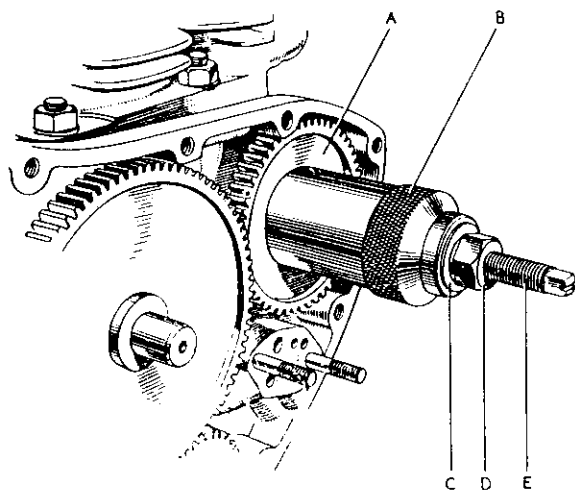

Fig. 20. To Replace the Camwheel.
- (2) The camwheel must be fitted with a special press-on tool (Fig. 20). Place the Woodruff key in the camshaft keyway. Then screw on the centre tool (E). Place the camwheel (A) on the camshaft and engage the keyway with the key. Screw the press-on tool outer sleeve (B) to the camwheel, and then place the thrust washer (C) and the left hand threaded nut (D) on to the inner rod. Screw up the nut, which has a left-hand thread, and the outer sleeve which carries the camwheel, will be driven forward, forcing the camwheel into its position. Do not dislodge the key. Prevent the camshaft from rotating by holding the inner threaded rod firmly at the end. When the camwheel is home, remove the press on tool and replace with the camwheel eccentric nut.